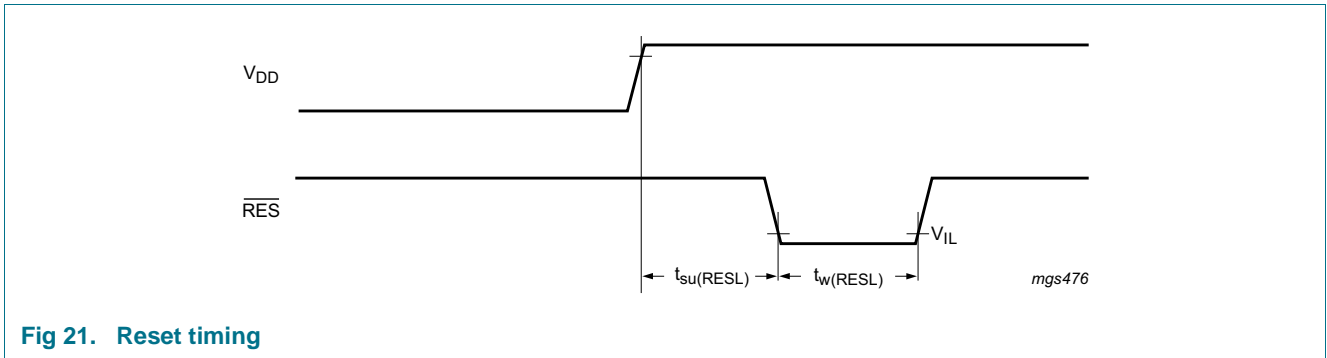

Fig 21. Reset timing
- [2] A reset is generated if  $t_{w(RESL)} > 3$  ns (see Figure 21).